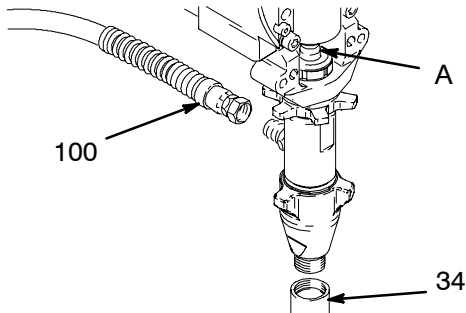

Fig. 15 7672C
3. Fig. 15. Cycle pump piston rod (A) to lowest position.
4. Fig. 15. Remove suction tube (34) and hose (100).